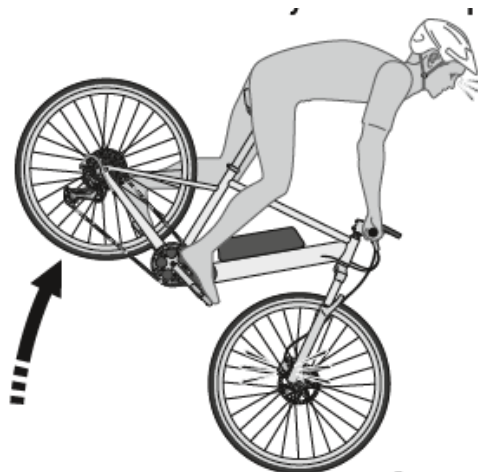

fig. 12
2. Applying brakes too hard or too suddenly can lock up a wheel, which could cause you to lose control and fall (see fig. 12). Sudden or excessive application of the front brake may pitch the rider over the handlebars, which may result in serious injury or death.